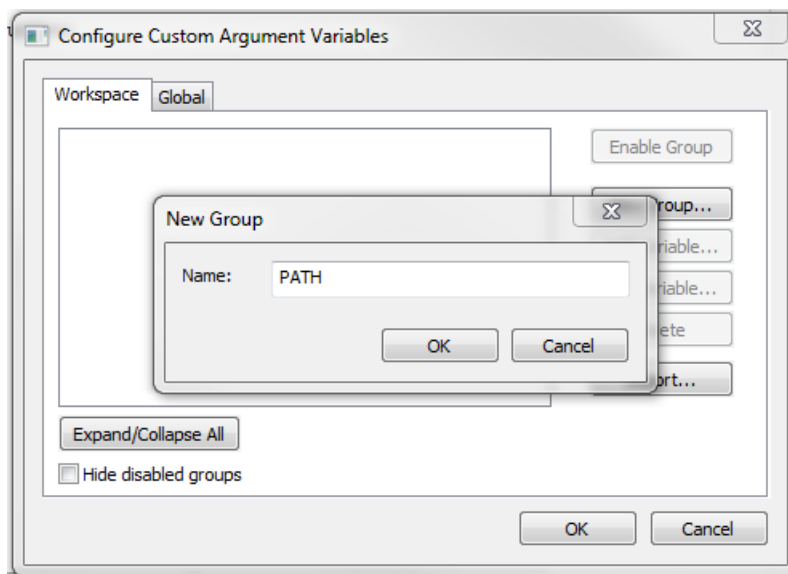

Figure 1-37. New Group
2. Click the New Group button, and another dialog appears. In this dialog, type the name of the group PATH, and click OK. See Figure 1-37.